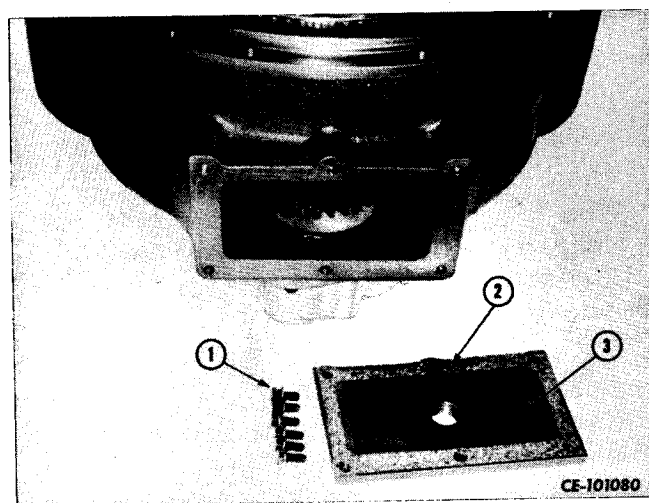

Figure 3-16
Remove cap screws and lock washers (1, Fig. 3-16) that secure pump inspection cover (3) and gasket (2). Discard gasket.